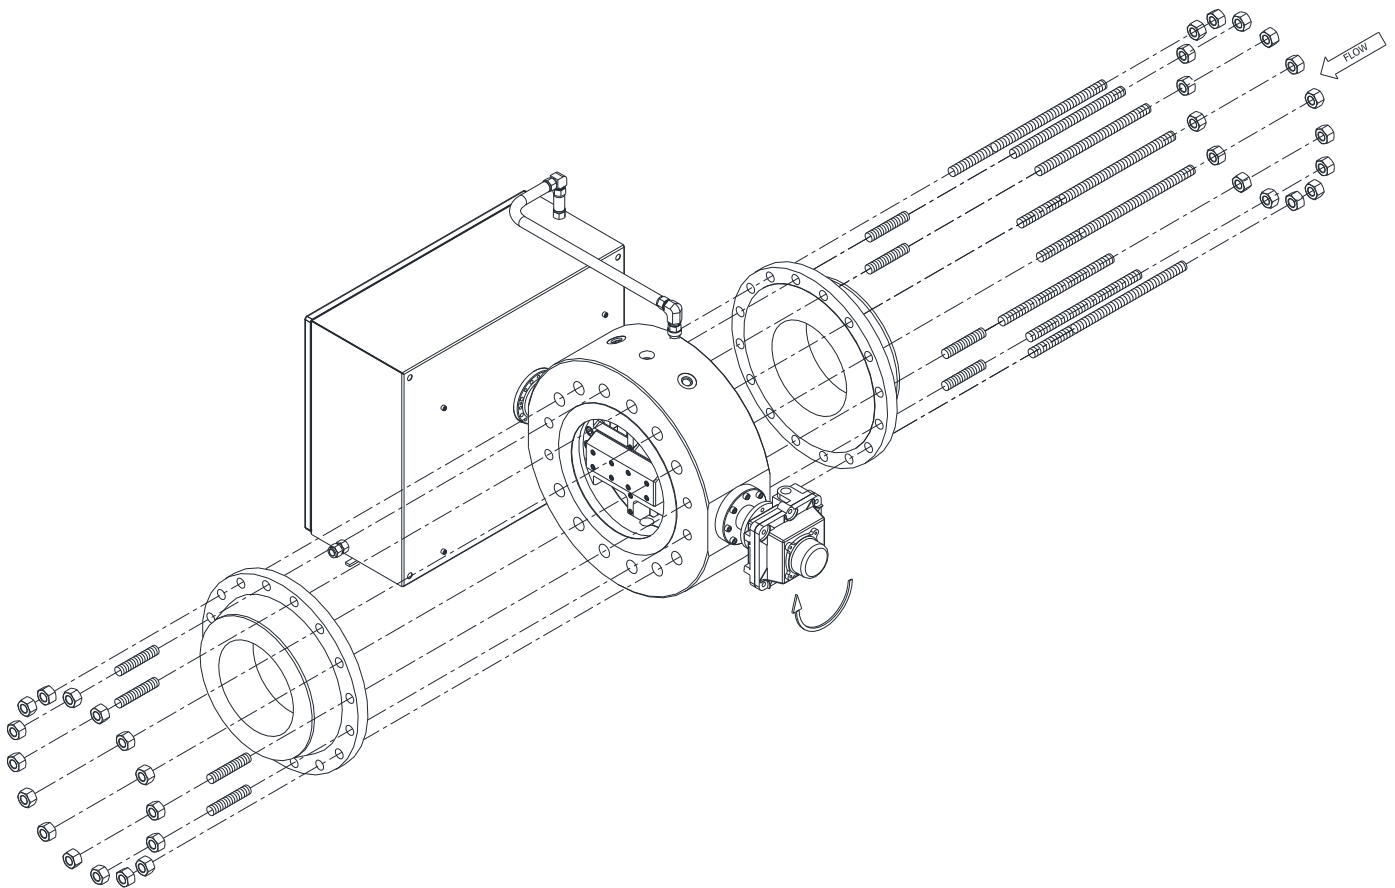

Figure 5. Typical Installation of BPIV with companion flanges
NOTE: Figure 5 illustrates a “Horizontal Flow Path with Bottom up opening orientation
1. Place the BPIV valve body in between companion flanges as shown in Figure 5. Make certain that the flow arrow on the body and the orientation arrow in the mechanism are correctly orientated as shown in Figure 5.